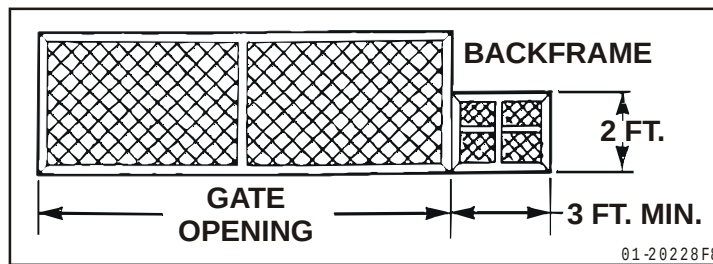

Figure 4
- Φ Some gates may only be as wide as the gate opening. They may require a backframe to be constructed to allow for chain attachments See Figure 4.